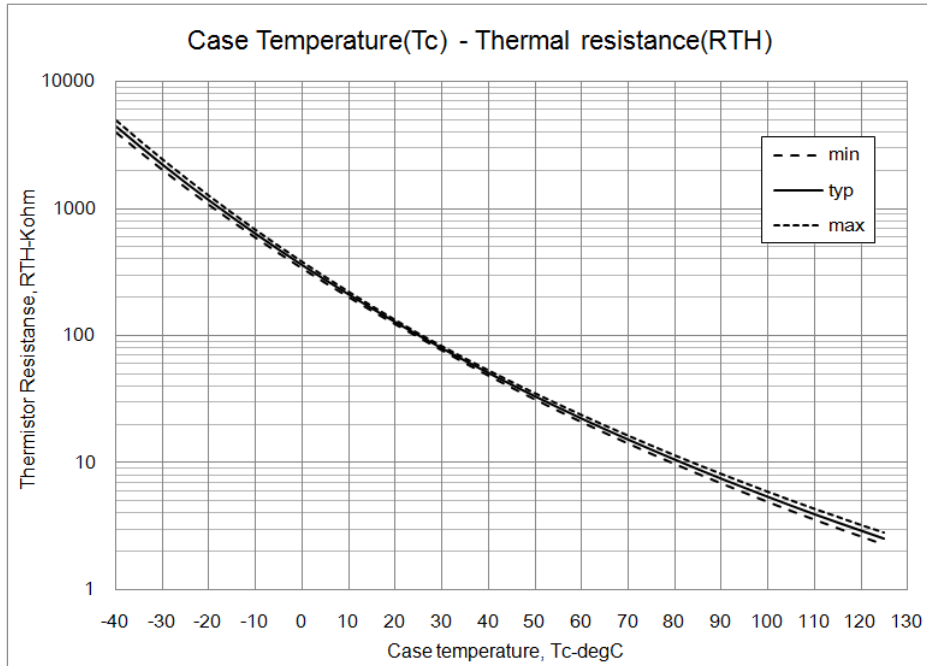
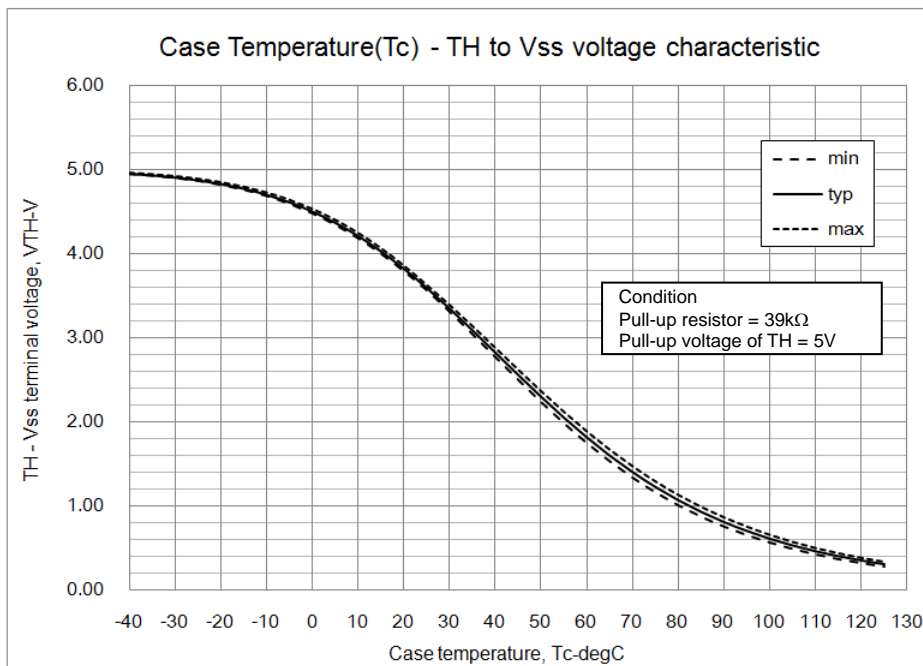

Fig.9
Fig.10
3. “FLTEN” (Pin 18) is open Drain (Active Low). This terminal serves as the shut down function of the built-in pre-driver. (When the terminal voltage is above 3V, normalcy works, and it is shut down when it is equal to or less than 0.8V.) Please make pulling up outside so that “FLTEN” terminal voltages become more than 3V. When the pull up voltage (VP) is at 5V, pull up resistor (RP) recommended more than 6.8k $\Omega$ , and in case of VP=15V, RP recommended more than 20k $\Omega$ .
4. Inside the IPM, a thermistor used as the temperature monitor for internal substrate is connected between VSS terminal and TH terminal, therefore, an external pull up resistor connected between the TH terminal and an external power supply should be used. The temperature monitor example application is as follows, please refer the Fig.9, and Fig.10 below.